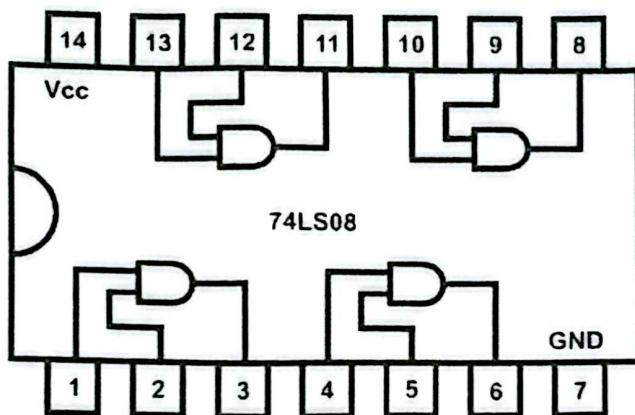

Fig. 2.2
4. Wire the circuit according to the diagram in figure 2.1 by consulting AND gate IC's data sheet in fig. 2.2.